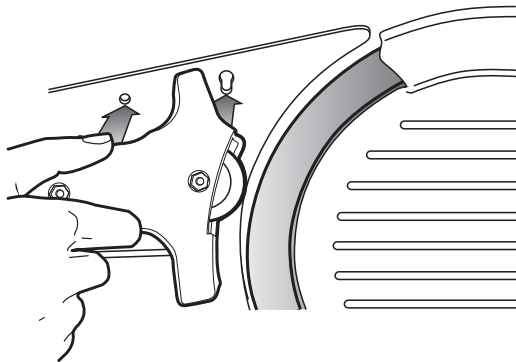

Figure 10. Attaching the detachable sharpener (7a).
3. Examine the detachable sharpener (Figure 10) the stone rotates freely.
4. Lift and rotate the food pusher (9) to its upright position and advance the food carriage slightly to insure that the pusher is out of the way and beyond the exposed cutting edge of the blade.
6. Standing to the left of the slicer, hold the sharpener in your right hand as shown in Figure 10. Insert its mounting pins fully into the holes on the thickness control plate. When fully inserted rotate the forward pin downward until it seats squarely in its respective slot. The sharpening stone should not be contacting the blade at this point.